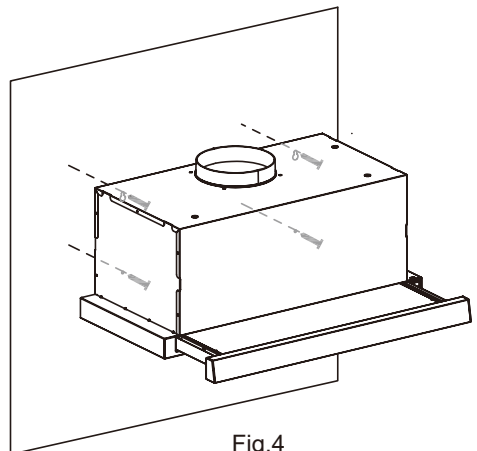

Fig.4
3. Hang the range hood onto the installed screws on the wall, then fix the other 2 screws (supplied) from inside of the hood to secure it in place and prevent it from falling (Fig.4).